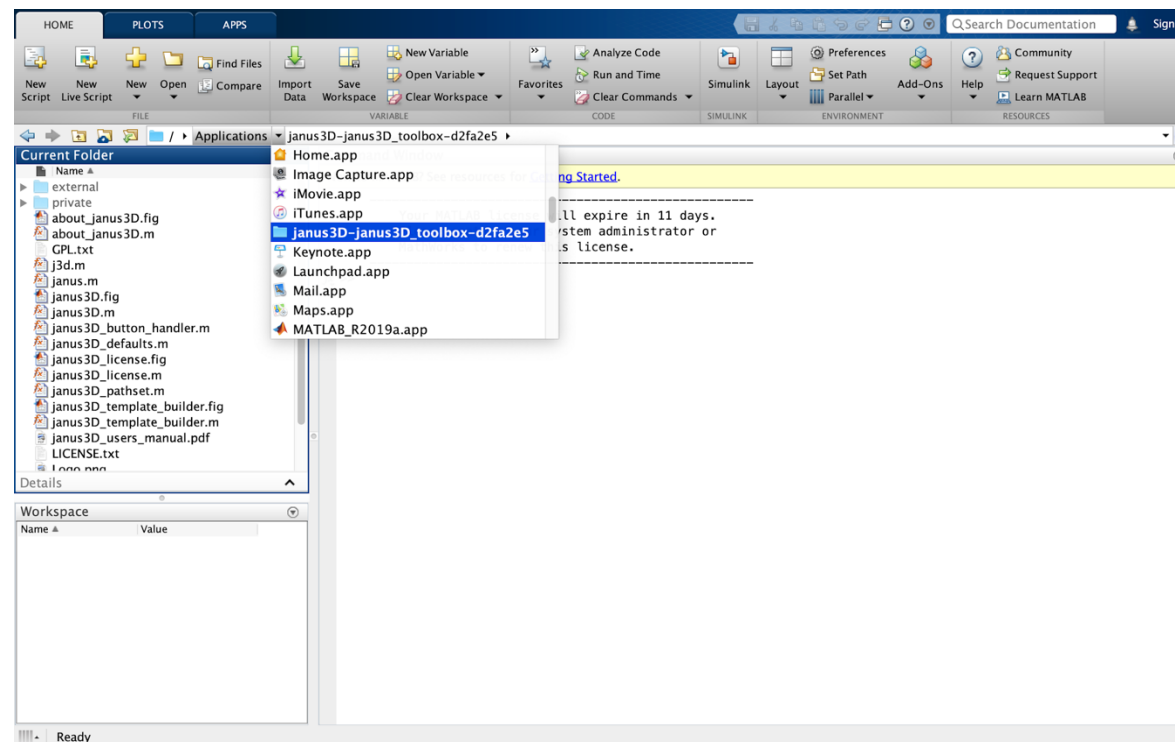

Figure 6. Navigation to toolbox path in Matlab
2. Open MATLAB, navigate to the path of the toolbox (e.g. C:/applications/janus3D-toolbox) as illustrated in figure 6. Then open a new script in the top left corner and type “janus3D” in the command box.